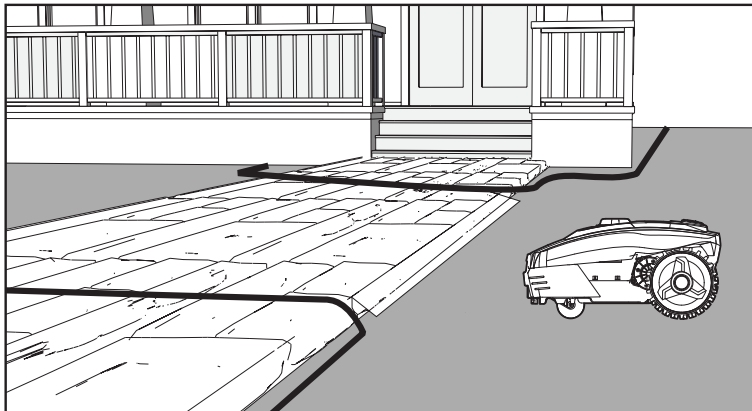

Fig. 12
- When the driveway and lawn are at the same level, use the boundary wire (19) to create a corridor to allow the machine safely cross the driveway and access the opposite lawn area (Fig. 12).